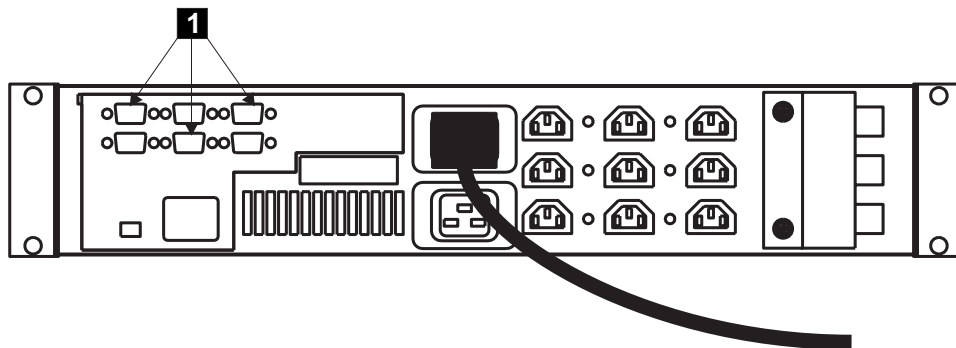

Figure 238. Disconnecting the 2145 UPS signal cables
2. At the back of the 2145 UPS, disconnect the signal cables **1**, which are shown in Figure 238.